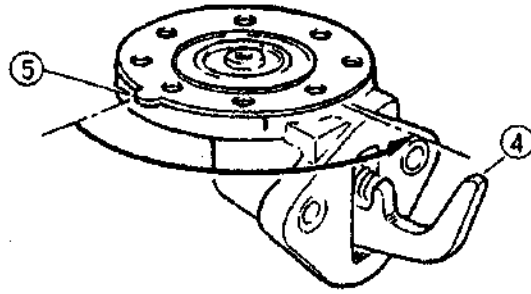

Fig. 2.1-6
1) Put the pump diaphragm on the pump rod as indicated in Fig. 2.1-6, and then insert the pump stay into the pump rod. Swivel it 90° at the same time of pushing the pump rod, and the pump diaphragm is attached to the pump rod④ in this way.